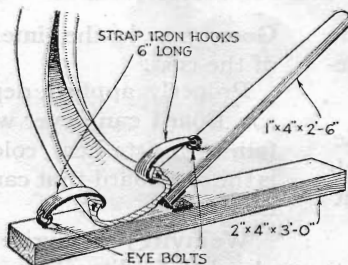

Fig. 4. Plenty of leverage enables you to inspect every part of the inside of an automobile tire with this simple device
**I**NSPECTING the inside of an automobile tire for nails or breaks in the fabric is made easier by the simple, homemade device sketched in Fig. 4. Plenty of leverage is supplied for spreading the beads.